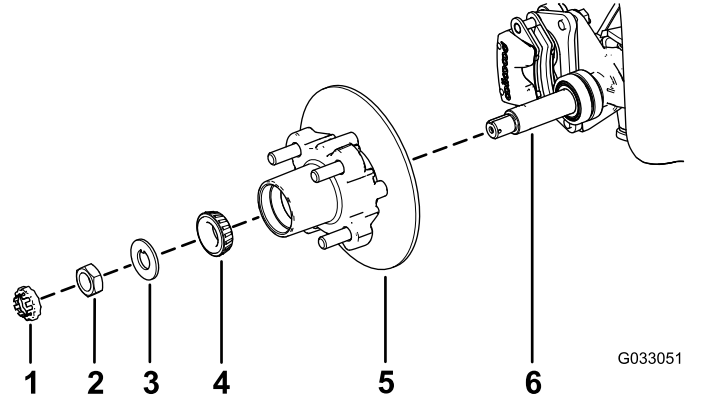

Figure 28
1. Apply a light coat of the specified grease to the spindle (Figure 28).
2. Assemble the hub and rotor onto the spindle with the rotor inboard (Figure 28).
3. Assemble the outboard bearing onto the spindle and seat the bearing to the outboard race (Figure 28).
4. Assemble the tab washer onto the spindle (Figure 28).
5. Thread the spindle nut onto the spindle and tighten the nut to 15 N·m (11 ft-lb), while rotating the hub to seat the bearing (Figure 28).
2. Align the brake pads to either side of the rotor (Figure 24) and the holes in the caliper bracket with the holes in the brake mount of the spindle frame (Figure 28).